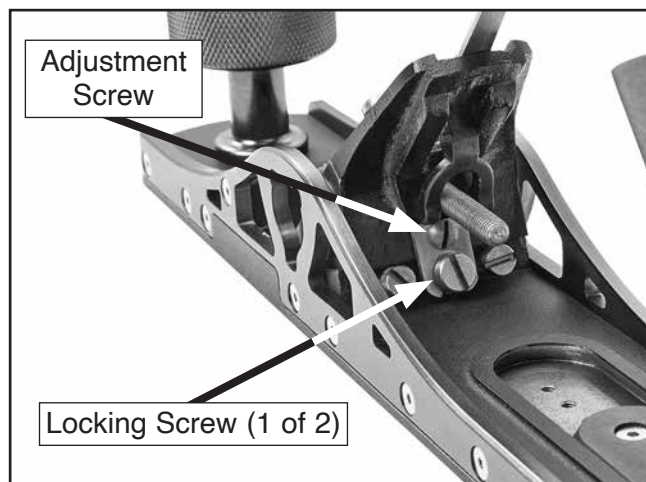

Figure 5. Frog position components.
3. Loosen (2) locking screws about ½ turn (see **Figure 5**).
4. Turn adjustment screw (see **Figure 5**) clockwise to close mouth, or counterclockwise to open mouth.